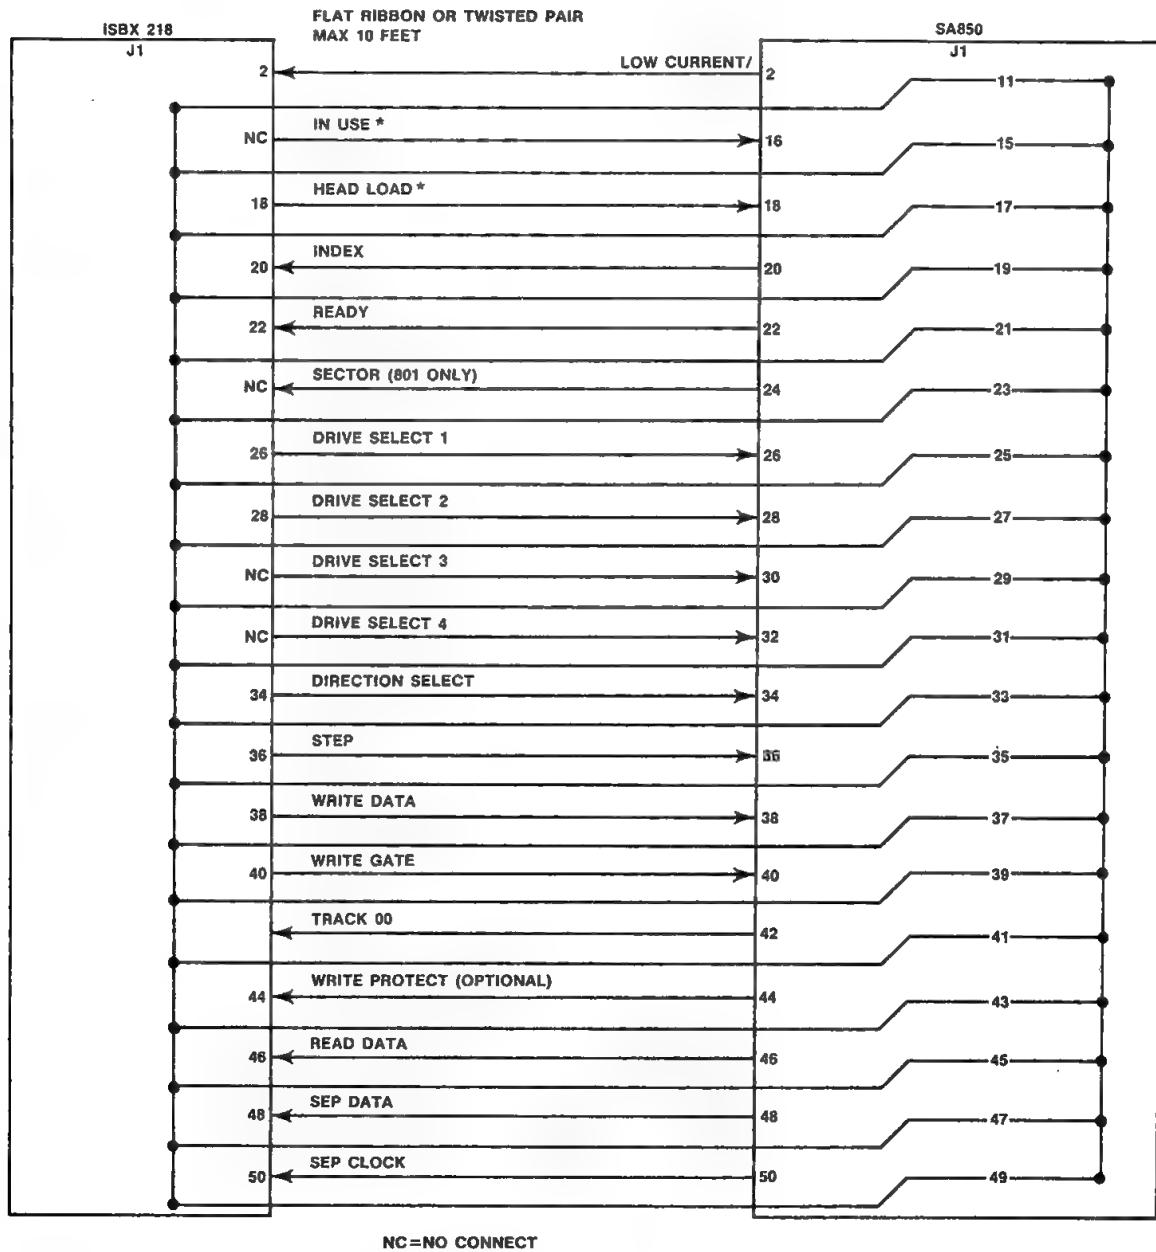

Figure A-4. Diskette Drive Interface Connector Schematic
1. Using an 18-inch, 50-conductor (28AWG stranded) flat cable (3M "Scothfex" P/N 3365/50), with an interface mating connector (3M P/N 3425-0000) on one end and a drive mating connector (P1) on the other end (see iSBX 218 Hardware Reference Manual, Figures A-4 and A-5), install the drive mating connector P1 on the floppy disk drive.